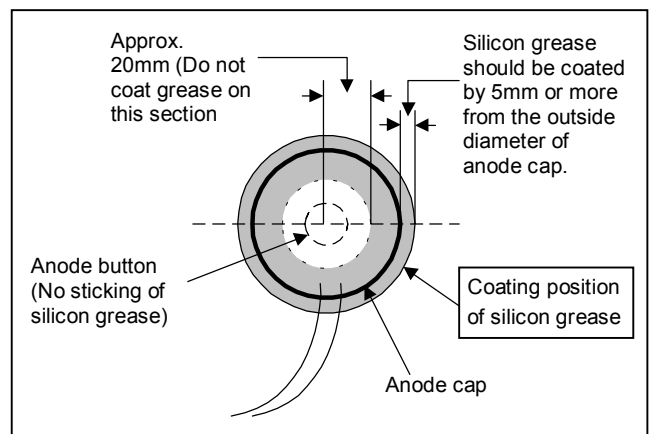
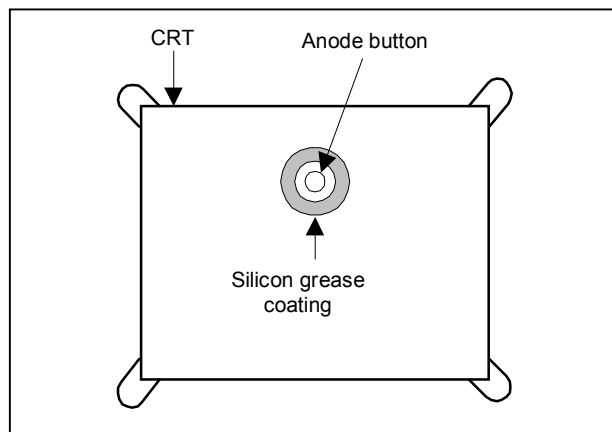

Fig. 7
Fig. 6
- Subsequent to replacement of the CRT and HV transformer or repair of the anode cap, etc. by dismantling them, be sure to coat silicon grease for electrical insulation as shown in Fig.6. Wipe around the anode button with clean and dry cloth. (Fig.6) Coat silicon grease on the section around the anode button. At this time, take care so that any silicon greases dose not stick to the anode button. (Fig.7)